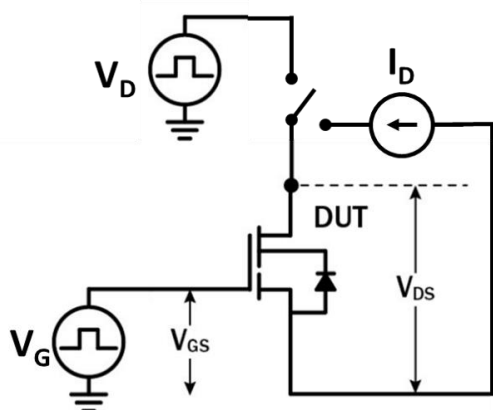

Figure 18. Dynamic $R_{DS(on)eff}$ Test Circuit
a. Dynamic $R_{DS(on)}$ value; see Figures 18 and 19 for conditions